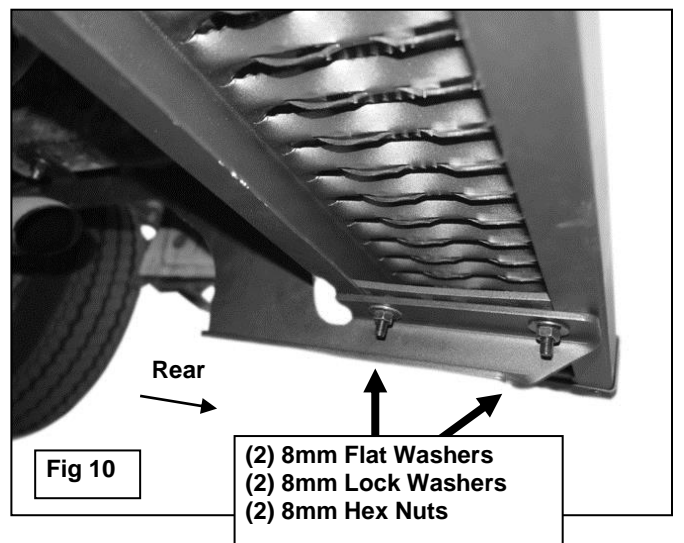

Fig 10
3. Select (1) Passenger/right Side Bracket. Attach the Bracket to the forward 12mm Bolt Plate with (1) 12mm Flat Washer, (1) 12mm Lock Washer and (1) 12mm Hex Nut. Attach the Bracket to the 10mm Bolt Plate with (1) 10mm Flat Washer, (1) 10mm Lock washer and (1) 10mm Hex Nut. **VERY IMPORTANT:** With the Bolt Plate hardware loose, pull the Bracket toward the rear, then fully tighten hardware.
5. Carefully unwrap the Rear Step. Select (2) 8mm Double Bolt Plates. Hold the Rear Step up to the (2) previously installed Brackets to determine correct location for Bolt Plates. Slide the (2) Double Bolt Plates into the track in the bottom of the Rear Step, **(Figure 9)**. Attach the Rear Step with Bolt Plates to the top of the (2) Brackets with (4) 8mm Flat Washers, (4) 8mm Lock Washers and (4) 8mm Hex Nuts, **(Figure 10)**. Leave loose at this time.